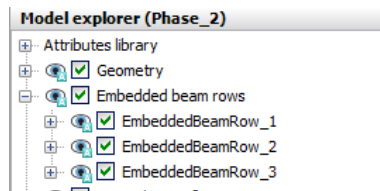

Figure 12: Activate all Embedded beam row.
- In the **Model explorer** expand the **Embedded beam row subtree** and **activate all the Embedded beam row** (Figure 12).